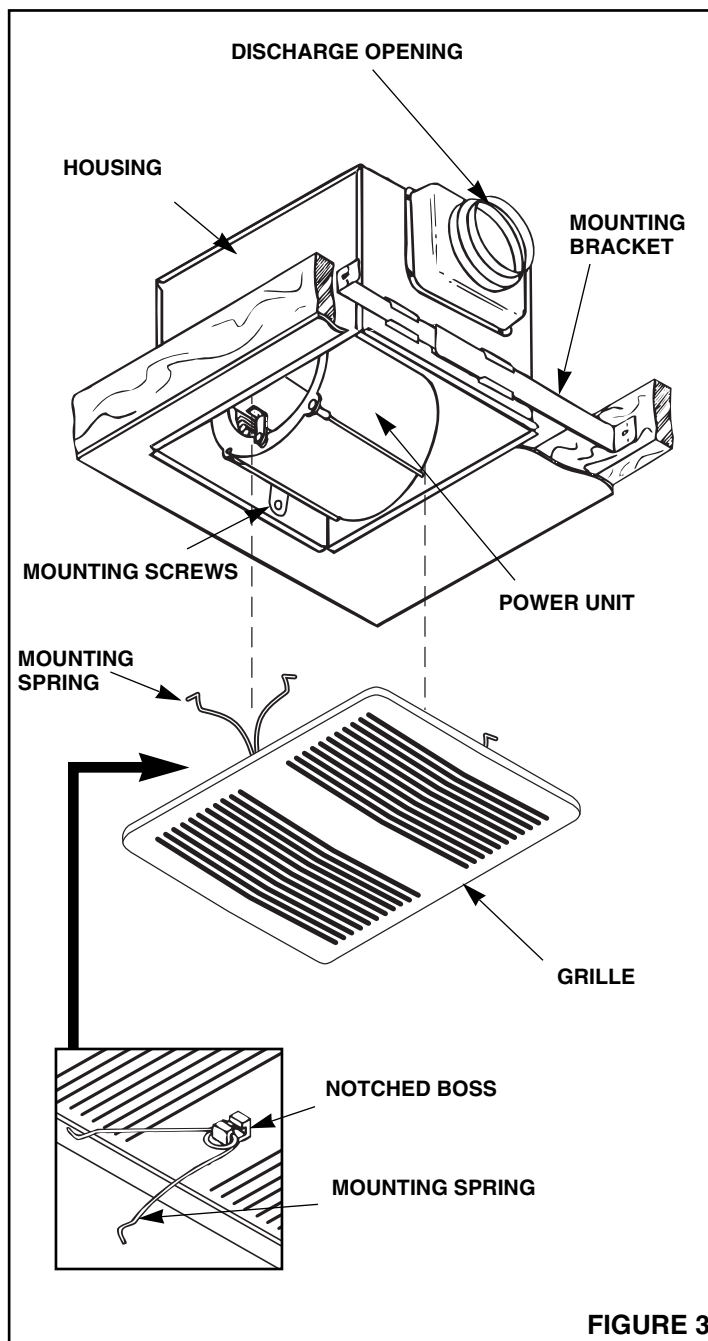

FIGURE 3
4. Refer to Figure 3. Securely tighten screw.
1. Refer to Figure 3. Snap grille mounting springs' center loop into notched bosses on the back of grille.